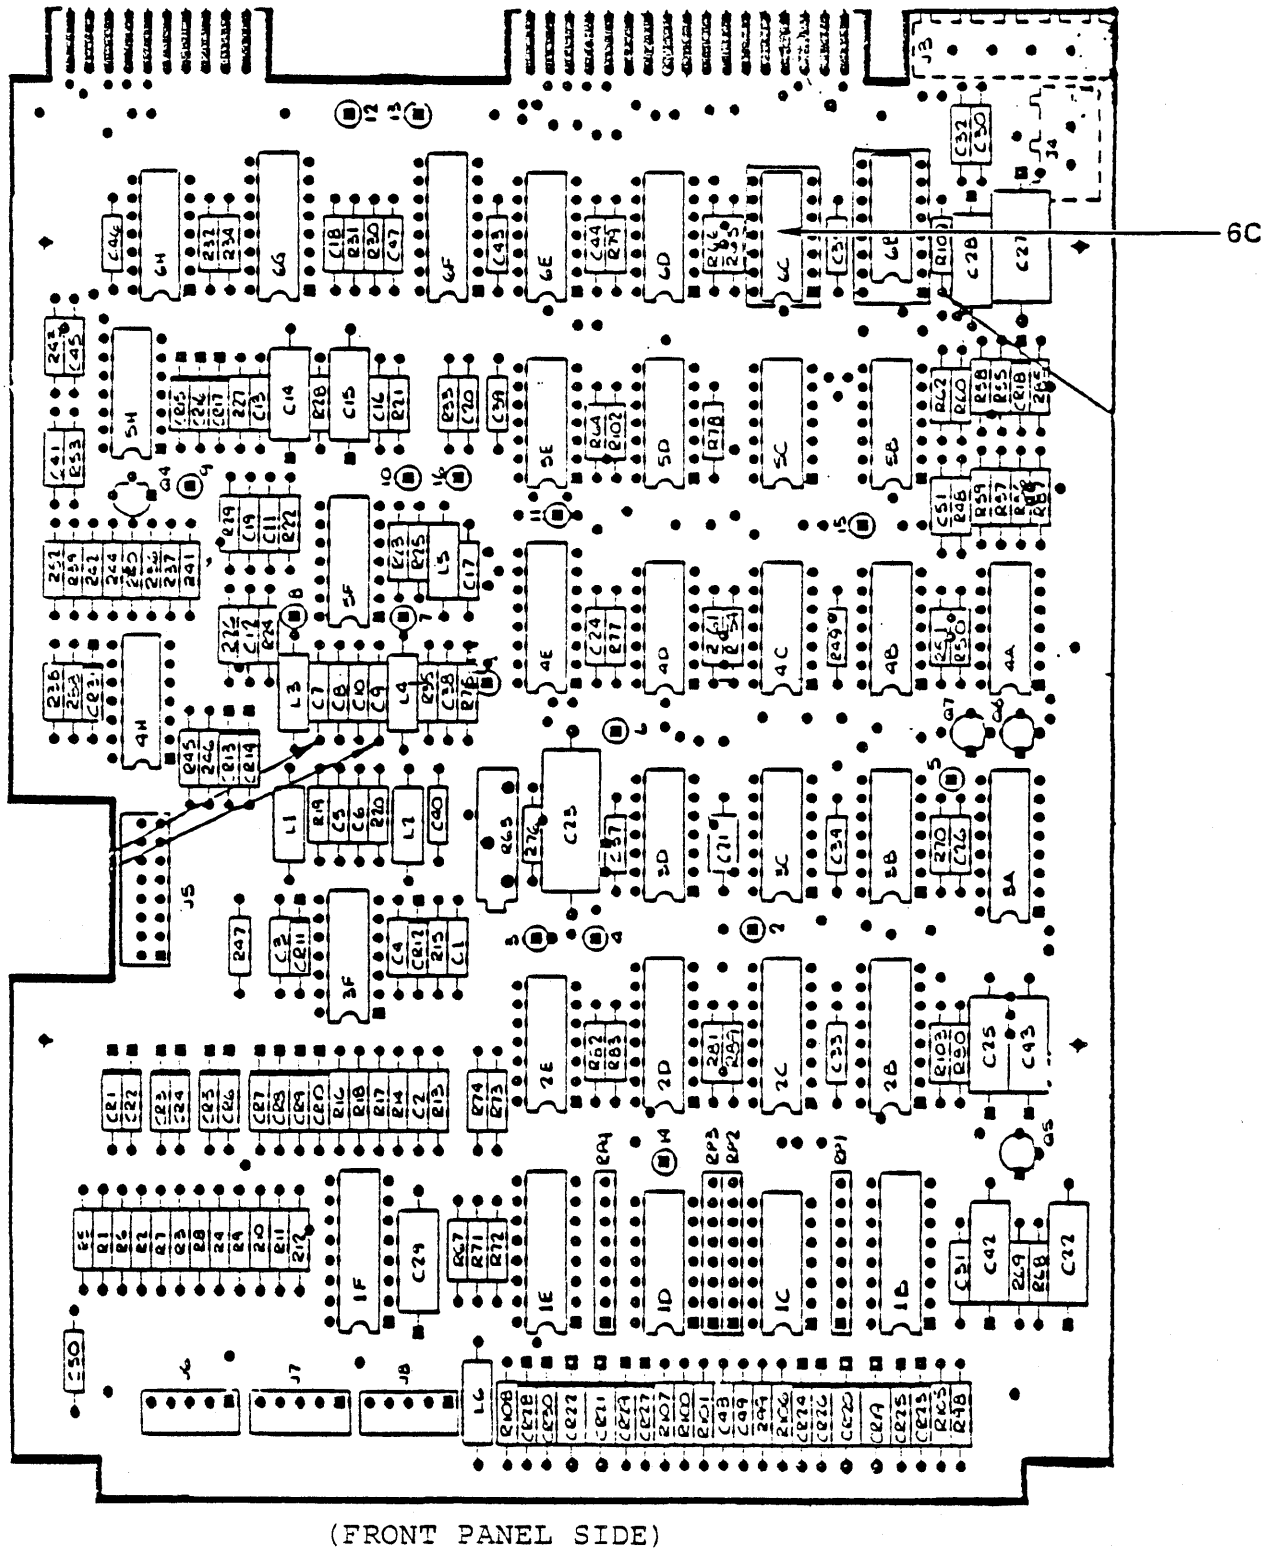

Figure 3. Hard Disk Drive Logic Board
- Step 15. Remove the terminator, located at position 6C, on the hard disk drive logic board. (Figure 3).
Step 16. Install the hard disk controller cable connector in the slot labeled JY (Figure 3), using the hardware provided, making sure that the wide portion is towards the top (nut to inside, MF screw to outside).